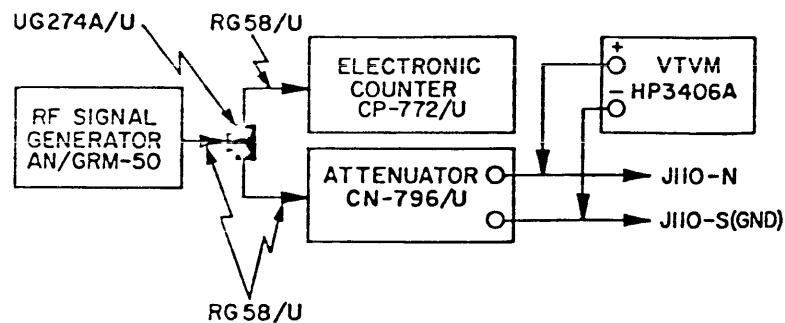

Figure 5-8. Step generator A Z110, test setup.
- (j) Connect signal generator, counter and attenuator as shown in figure 5-8.